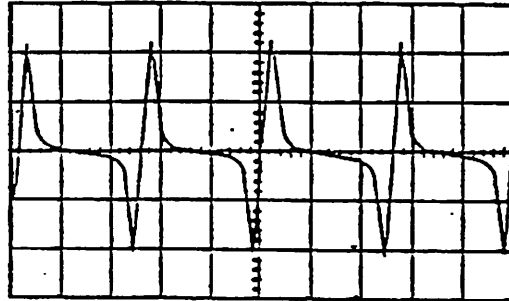

FIGURE 9-3 GUARD-BAND WAVEFORM PATTERN
3. Move the cartridge servo head to the rear of the drive until the outer guard band is reached. (see top fig. 9-3)
4. Once the guard band has been located move the cartridge servo head forward until cylinder zero is reached.(see bottom fig. 9-3).